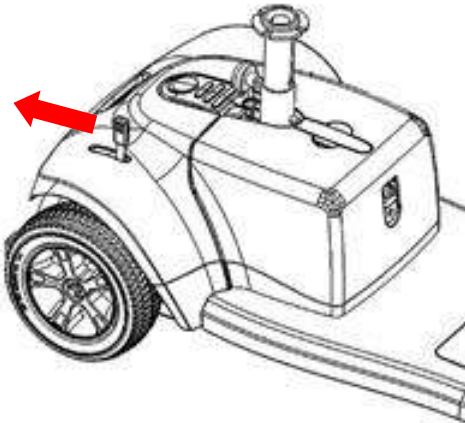

Fig 6.7.1 Drive Mode (Closed)
**1. Drive position** - is indicated by 'Closed' - pull the lever backwards for this position. (Fig 6.7.1)